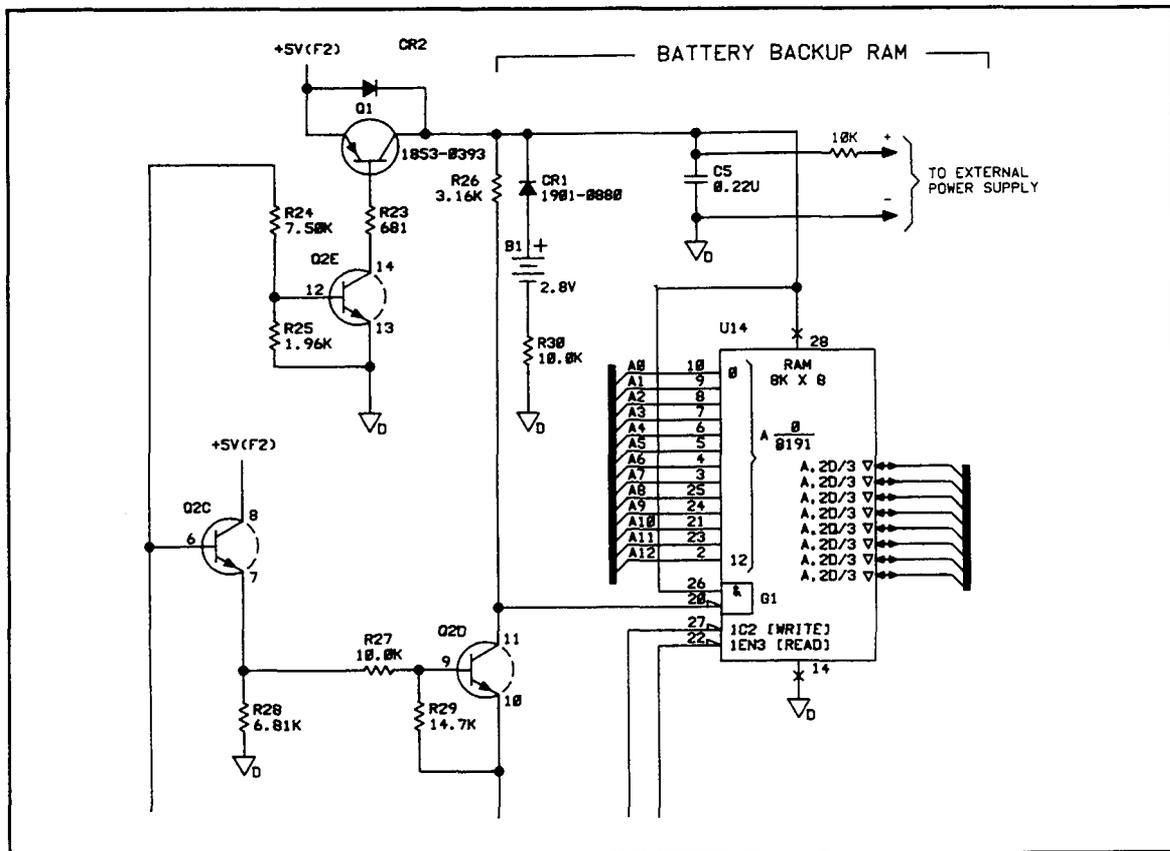

Figure 8-12.1 Partial Schematic of A2 Digital Assembly Showing the Battery Backup
4. Refer to Figures 8-12.1 and 8-12.3 for serial prefix 2942A and below or 8-12.4 for serial prefix 2948A and above. Rig up a temporary backup supply as follows.